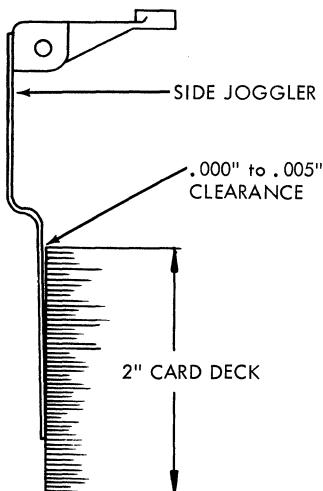

Figure 2-10A. Side Jogger Adjustments
1. With a two inch column of cards in the hopper, turn the file feed drive until the hopper joggler cam follower is on the high dwell of the cam. Set the adjusting screw for $.000''$ to $.005''$ clearance between the top of the deck and the joggler arm (Figure 2-10A). NOTE: There is no timing relationship between the side and front joggler cams, nor between the cams and the feed knives. The front joggler cams should however, be even with each other.